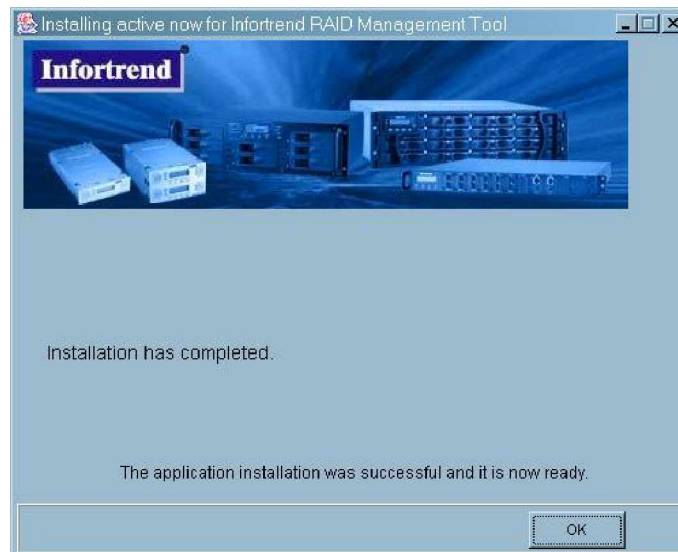

Figure 2-9: Successful Installation
Step 6. Once the software has been successfully installed, a window indicating the successful installation, shown in *Figure 2-9*, will appear. To complete the process and to make the window disappear, click on the “*OK*” button.